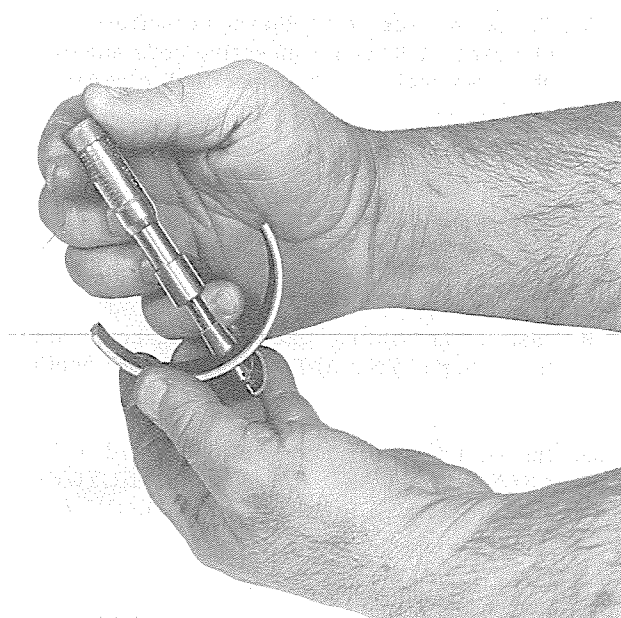

Fig. 5 — Measuring Bearing Shell Thickness (T-19046)
- c. Another method for determining amount of wear on bearing shells is by measuring each shell with a micrometer at a point 90° from the parting line as shown in Fig. 5. New shells, measured as shown, are .1549"-.1554" thick. Bearing shells less than .153" thick are worn beyond the allowable limits and must be replaced.